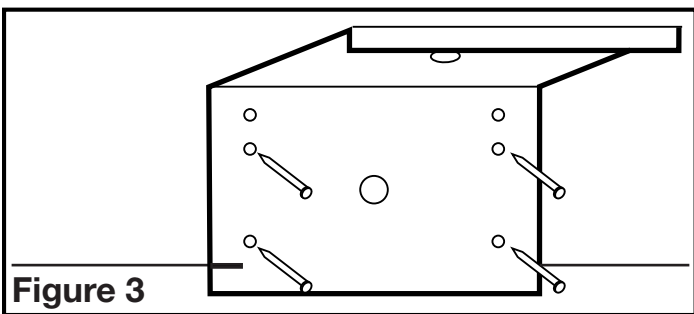

Figure 3
- Using the gauge on the mounting bracket, line up the bracket on the joist so the bottom of the fan will be flush with the finished ceiling. Nail or screw the bracket in place securely (**Figure 3**).
- Line up the bracket on the joist so the bottom of the fan will be flush with the finished ceiling. Nail or screw the Snap-in bracket in place securely (**Figure 3**).